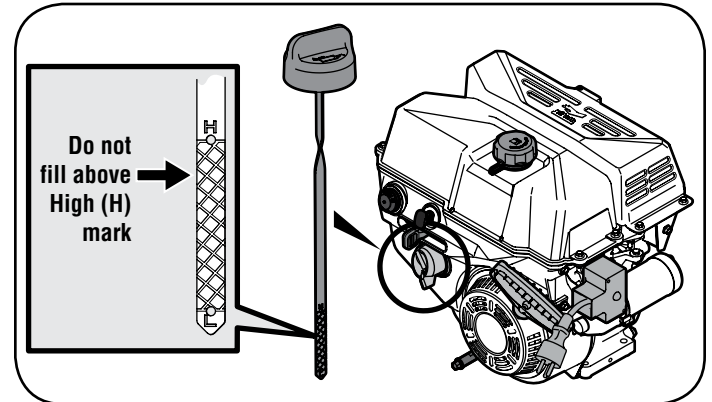

Figure 41
3. Remove the oil filler cap/dipstick. If level is low, slowly add oil until oil level registers between high (H) and low (L). See Figure 41.